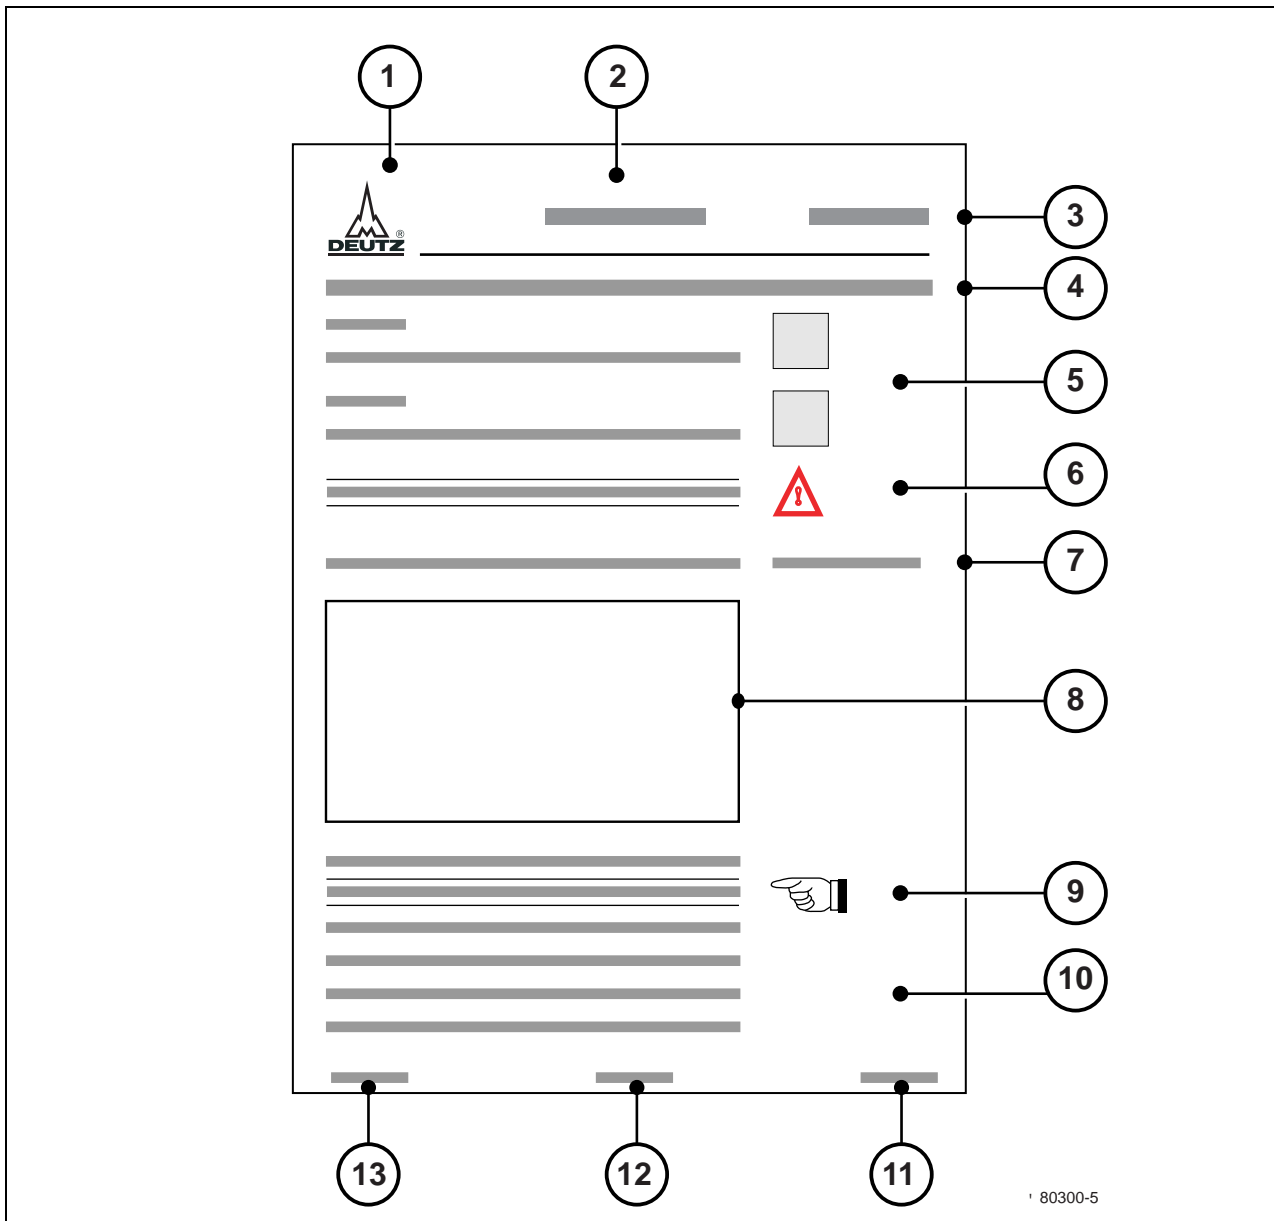

Figure 1-2 Numbering of the job cards
- The structure of the job card is shown in Figure 1-2.